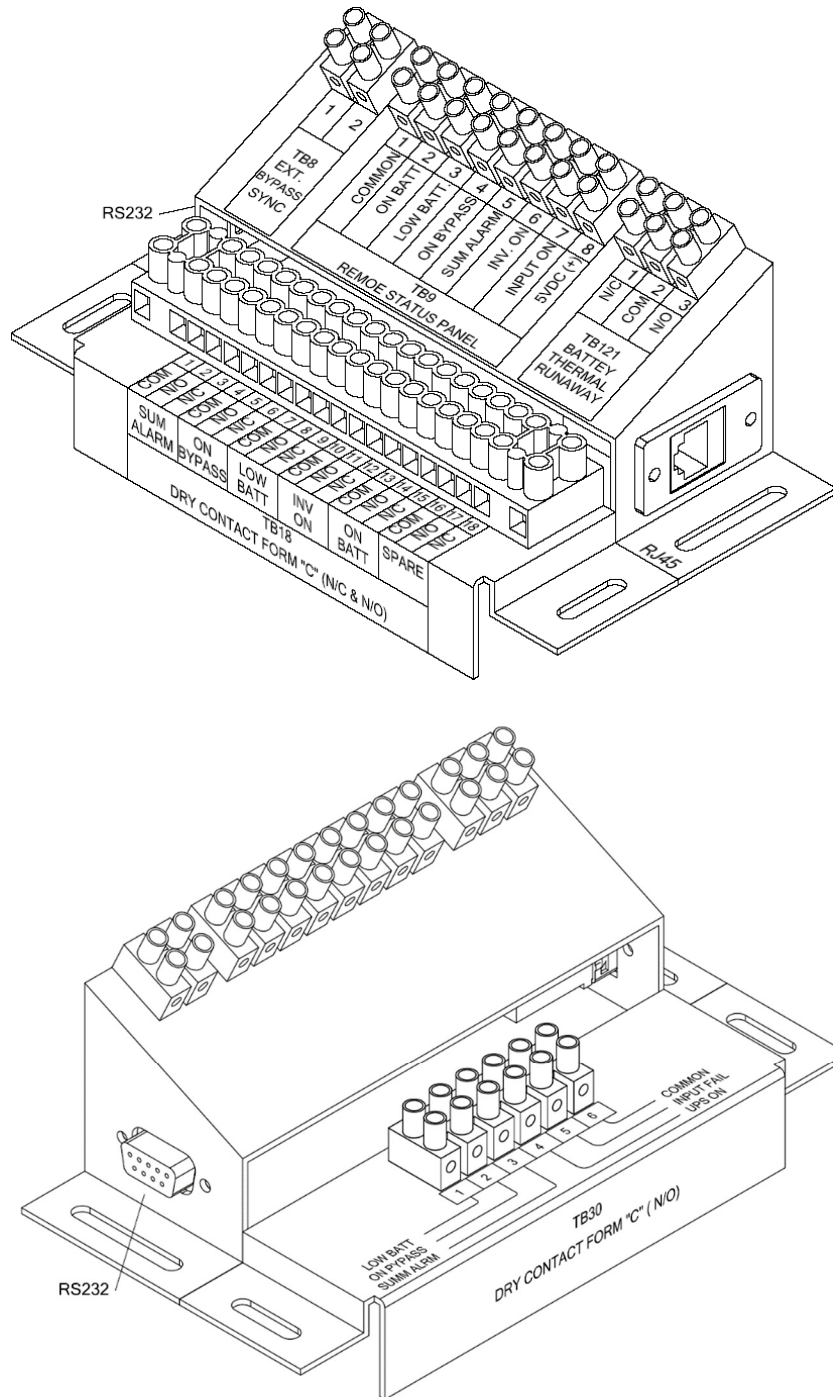

Figure 8-1 (Communications and Alarm Signaling Interfaces)
Refer to Figure 8-1 for Interface terminal blocks.
- Refer to Figure 8-1 for Interface terminal blocks.